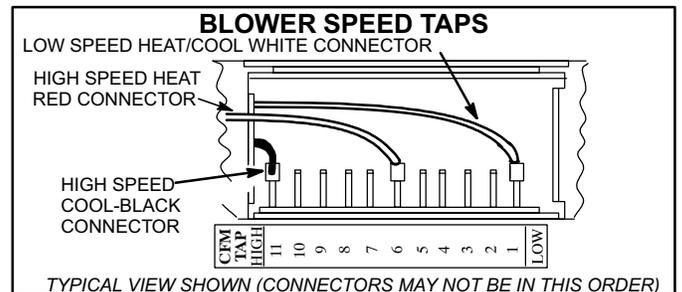

FIGURE 7
- 5 - Remove the appropriate speed connector and place it on the proper tap. See figure7.